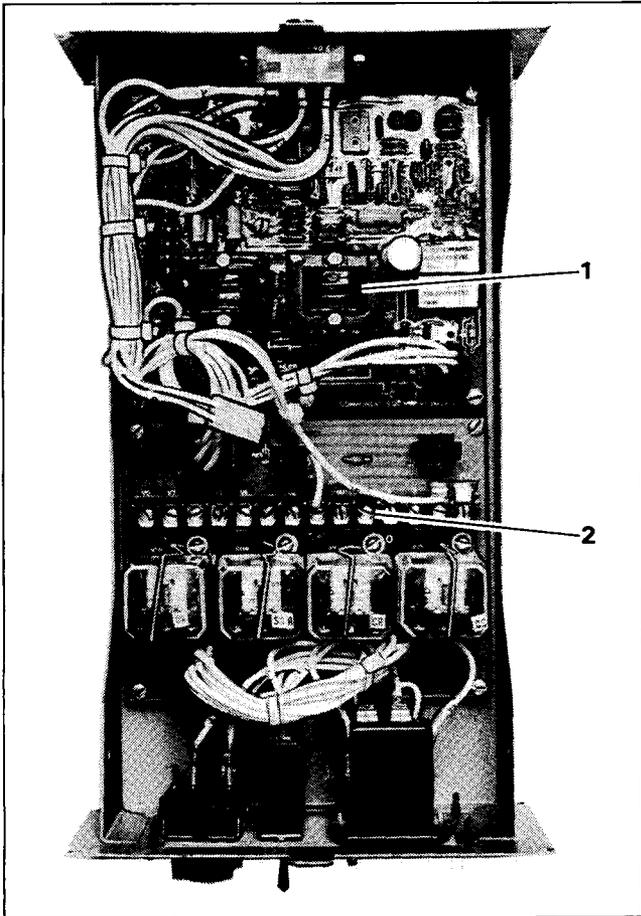

Figure 3-6. Regulator and Terminal Boards
5. Close switch to apply power; lamp should light. Adjust Pot. 2 to clockwise limit and observe maximum intensity of light. Adjusting Pot. 2 to counterclockwise limit will extinguish bulb. See Figures 3-6 and 3-7 for adjustment location.
1. Disconnect generator from load. Place generator main switch in OFF position. Lift enclosure cover to expose voltage regulator board and terminal strip. See Figure 3-6.